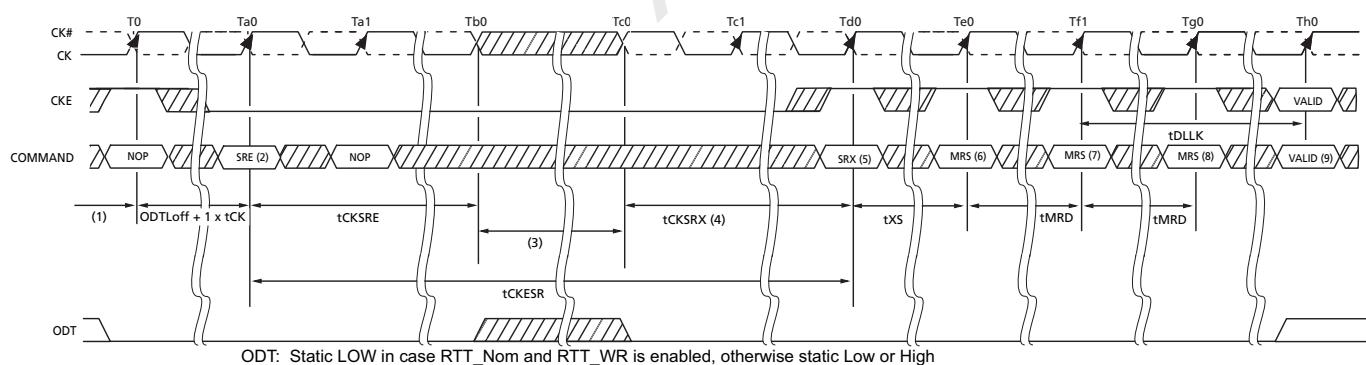

Figure 15 — DLL Switch Sequence from DLL Off to DLL On
2. Refer to Figure 15 for specific $tWLO$ timing.